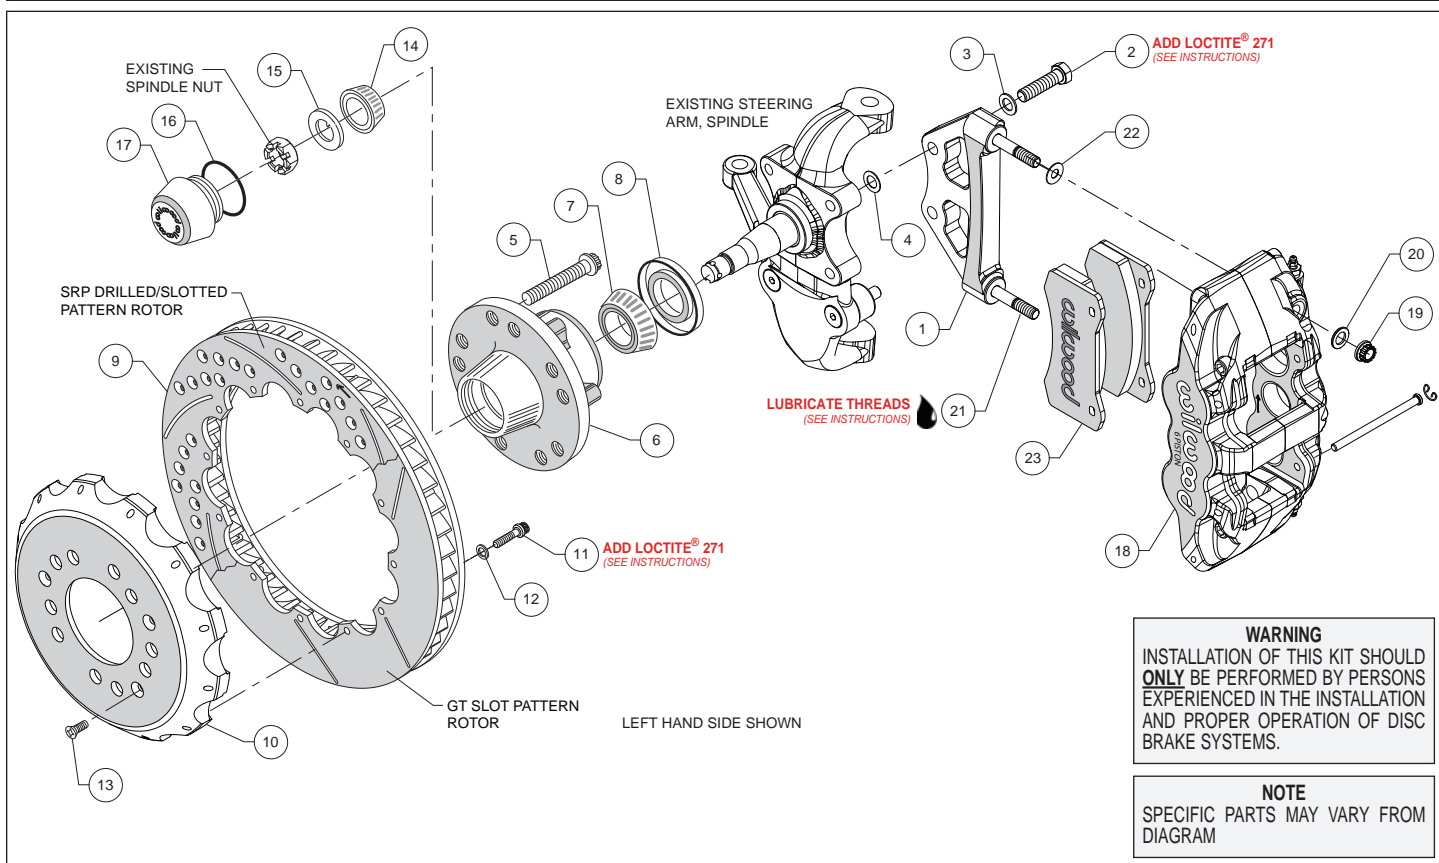
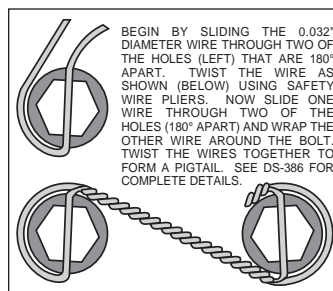

Figure 1. Typical Installation Configuration
Figure 3. Safety Wire Diagram
Assembly Instructions (numbers in parenthesis refer to the parts list on the preceding page, and Figure 1):
- The caliper mount bracket (1) should initially be installed with clean, dry threads on the mounting bolts. Orient the bracket as shown in Figure 1, and install using bolts (2) and washers (3). Initially place one .032" thick shim (4) on each bolt between the bracket and upright, Figure 1 and Photo 1. Temporarily tighten the mounting bolts. **NOTE:** *The bracket must fit squarely against the mount bosses on the upright.* Inspect for interference from casting irregularities, machining ridges, burrs, etc. Later, after the caliper alignment has been checked, the mount bolts will be secured using red *Loctite*® 271.
- Pack the large inner bearing cone (7) with high temperature disc brake bearing grease (available from your local auto parts store) and install into the backside of the hub (6), Photo 3.
- Install the grease seal (8) by pressing into the backside of the hub (6), flush with the end of the hub, Photo 3.
- Orient the rotor (9) and the hat (10) as shown in Figure 1 and Photo 4. Attach rotor to hat using bolts (11) and washers (12). Using an alternating sequence, apply red *Loctite*® 271 to the threads and torque bolts to 155 **in-lb**. For an added measure of security, the bolts may be safety wired using standard 0.032 inch diameter stainless steel safety wire as shown in Figure 3. Refer to Wilwood's data sheet DS-386 (available at www.wilwood.com/Pdf/DataSheets/ds386.pdf) for complete safety wire installation instructions.
•**NOTE:** This kit contains distinct right and left hand calipers that must be mounted in a specific direction, as described below. Lubricate the caliper mounting studs (21) with lightweight oil. Initially place one .035" thick shim (22) on each stud between the caliper and the bracket, as shown in Figure 1 and Photo 7. Mount the caliper (18) onto the bracket (1) using lock nuts (19) and washers (20), Figure 1. Ensure that the caliper is mounted so the largest pistons are at the rotor exit end of the caliper, in relation to the direction of rotor rotation. Temporarily tighten the lock nuts and view the rotor through the top opening of the caliper. The rotor should be centered in the caliper, Photo 8. If not, adjust by adding or subtracting shims (4) between the bracket and the upright. Always use the same amount of shims on each of the two mounting bolts. Once the caliper alignment is correct, remove the bracket mounting bolts (2) one at a time, apply red *Loctite*[®] 271 to the threads, and torque to 90 ft-lb.
•Remove the caliper (18), then remove the two pad retaining pins by carefully popping out the pin retaining clips and sliding out the pins. Insert the brake pads (23) into the caliper from the bottom, Figure 1 and Photo 9. With the friction material facing the rotor, secure the brake pads in place with the pad retaining pins and clips, Photo 10. Reinstall the caliper onto the caliper mounting bracket and temporarily tighten the lock nuts (19). Check that the top of the brake pad is flush with the outside diameter of the rotor, Photo 11. If not, adjust by adding or subtracting shims (22) between the caliper and the bracket. After the caliper pad height is set, torque the caliper lock nuts (19) to 47 ft-lb.